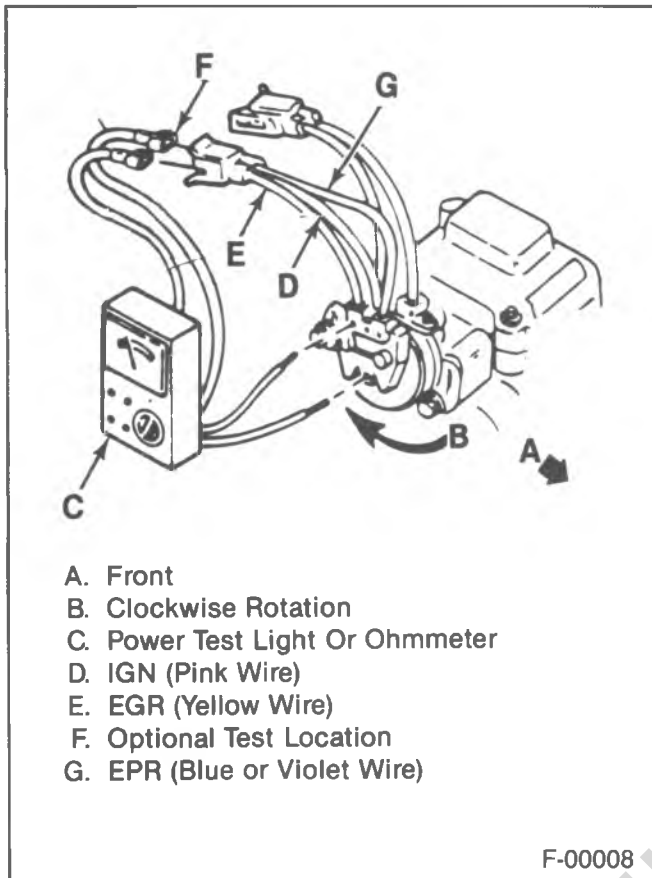

Figure 4—Testing the TPS for Continuity
3. Connect an ohmmeter or test light to the IGN (pink) and EGR (yellow) terminals of the TPS (figure 4).